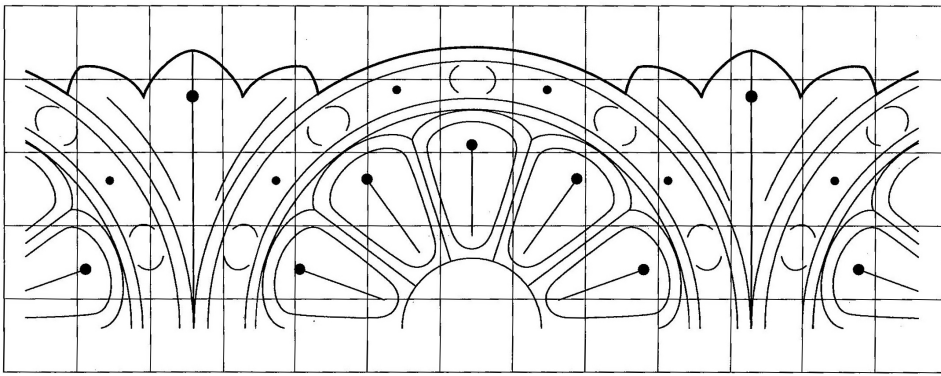

Fig 2
The skill of drawing can be looked upon as a methodical series of stages. Each of the projects in this series requires a drawing to be reconstructed to scale. Admittedly, it would be easier to expand the picture provided on a photocopier. However, the process of redrawing the design by hand and eye is an important learning process which is as relevant as the carving itself. The reconstruction will require concentration and encourages you to study each area of the design in depth, this bringing to light important details and requirements that may be overlooked at a glance. Form a grid of boxes, each measuring 2 cm squared. In **fig 2**, concentrate on each individual grid box at a time, rather than reproduce the entire design all in one go. Copy the contents of a smaller grid box into the larger, ensuring you reproduce the contents in exactly the same position.
**16.** Before any further progression, it is necessary to mark onto your carving the finer details, as shown in **fig 2**. These are located around the inside of the semi-circles perimeter and inside each of the petals. **Pic 16.**